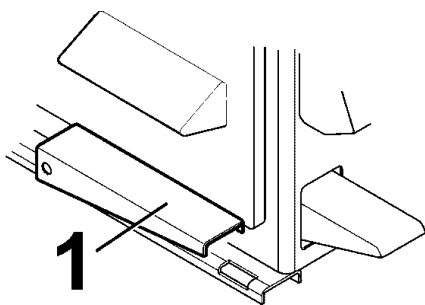

Figure 3.0-2
- G Press bead-seater pedal on left side of the machine (5, Fig. 3.0-1 / 1, Fig. 3.0-2) halfway down: This will allow activate the tire inflation line.
- H Press bead-seater pedal (1, Fig. 3.0-2) swiftly all the way down to get air blast from the inflator jets in the clamping jaws. Air simultaneously comes out of inflator hose.